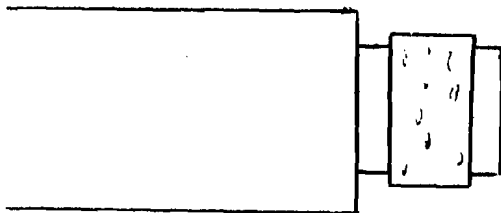

Figure 42
- g) Continue until the cork is installed in the groove (Figure 42, page 89).